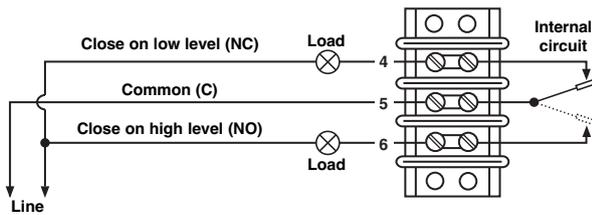

Figure 15
1. Rising level closes contacts 5 & 6, see Figure 15.